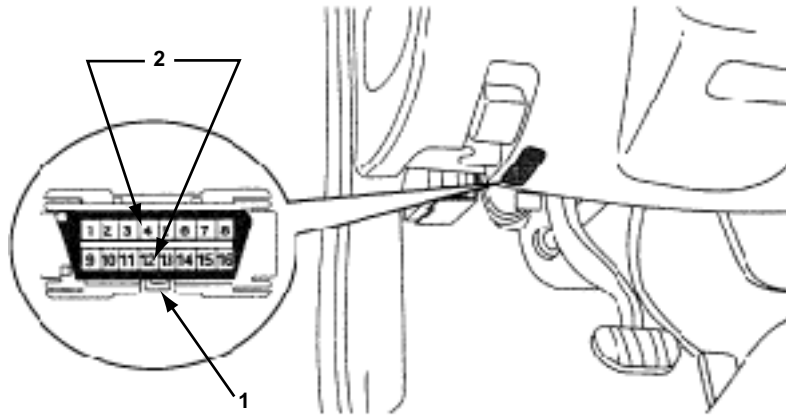

Figure 8-33 1996–2002 Passport with RWAL system
- Jump pins 4 and 12 as shown in Figure 8-33.